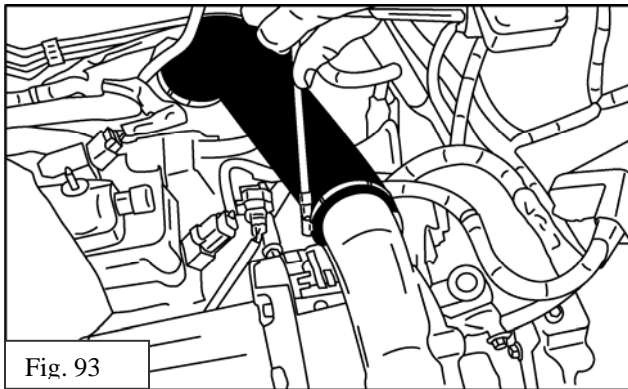

Fig. 93
- (a) Install rubber TRD intake tube between S/C and Throttle Body. Be sure to install the hose clamps over the tube before fitting into place. Fig. 93.